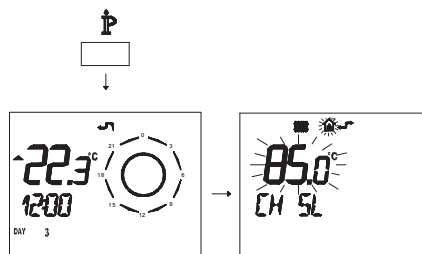

Figure 5.33
The temperature trend when changing the setting using keys 13 and 14 for a **K 1.5** is shown in Figure 5.33.
- Press the button  for more than 3 seconds to enter **INFO** mode (Figure 5.33).